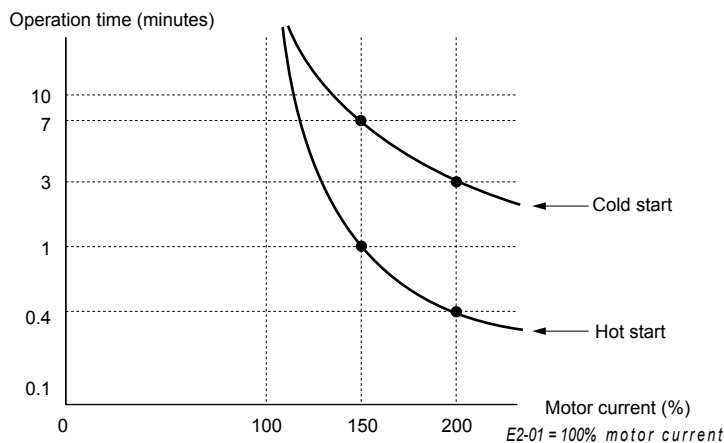

Figure 5.74 Motor Protection Operation Time
- Figure 5.74** shows an example of the electrothermal protection operation time using a general-purpose motor operating at 60 Hz with L1-02 set to one minute.